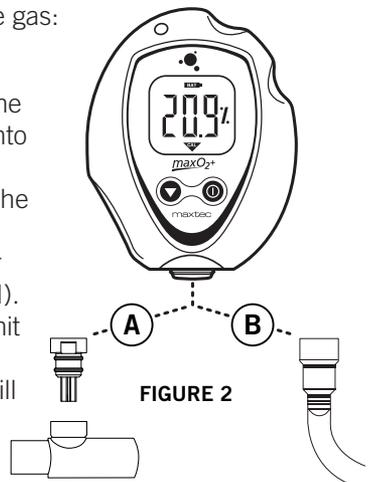

FIGURE 2
1. Connect the Tygon tubing to the bottom of the analyzer by threading the barbed adapter onto the oxygen sensor. (FIGURE 2, B)
2. Insert the MAXO₂+ in the center position of the tee adapter (FIGURE 2, A).
2. Connect the Tygon tube to the barbed adapter. (FIGURE 2, B)